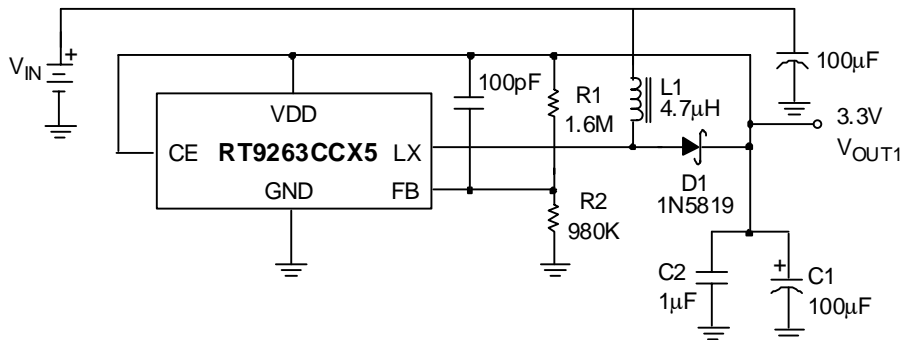

Fig. 1 RT9263CCX5 Typical Application for Portable Instruments below 400mA
Referring to application circuits Fig.1 to Fig.4, the output voltage of the switching regulator ( $V_{OUT1}$ ) can be set with Eq.1.
Referring to application circuits Fig.1 to Fig.4, The selection of R1 and R2 based on the trade-off between quiescent current consumption and interference immunity is stated below:
- A proper value of feed forward capacitor parallel with R1 on Fig.1 to Fig.4 can improve the noise immunity of the feedback loops, especially in an improper layout. An empirical suggestion is around  $100pF \sim 1nF$  for feedback resistors of  $M\Omega$ , and  $10nF \sim 0.1\mu F$  for feedback resistors of tens to hundreds  $K\Omega$ .